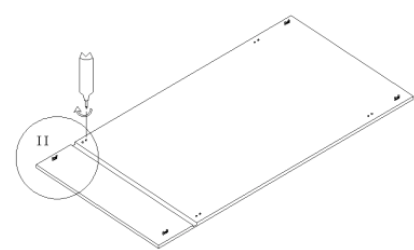

Figure 1
1. Drill the holes of 9mm for the holder of guide on the back panel, the detail distance as below (Figure 1).